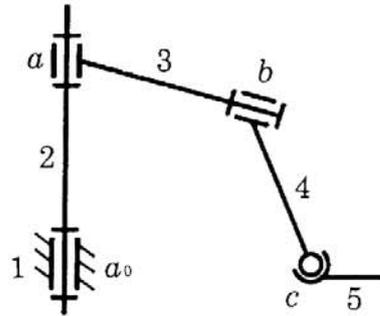

Fig. 1a
1. Calculate the degrees of freedom of the mechanisms shown in Fig. 1a and Fig. 1b. (20%)